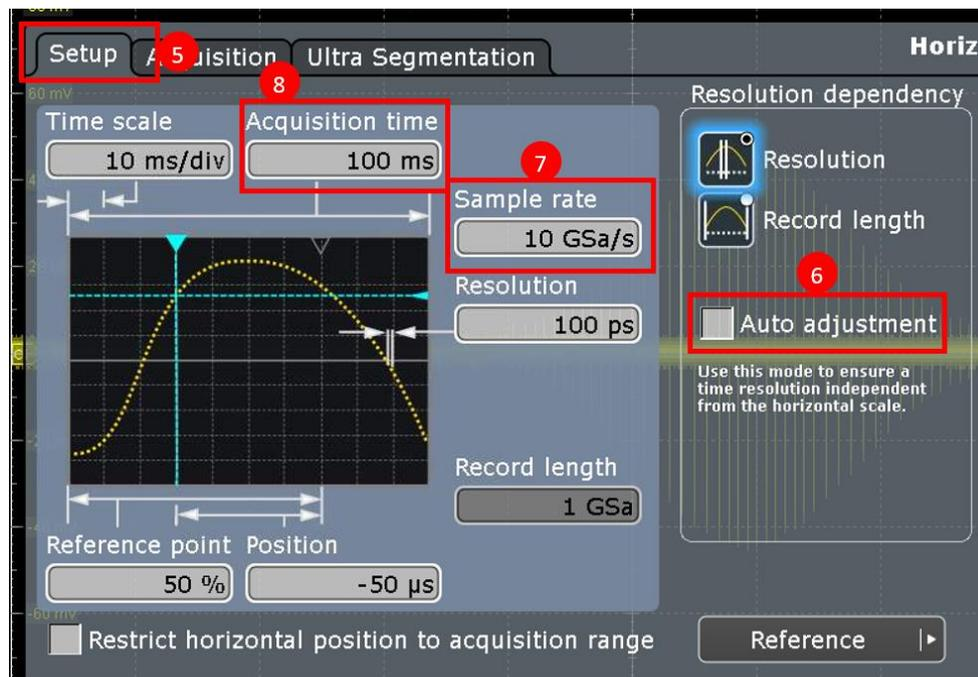

Figure 4: Acquisition configuration
1. Click **[Horizontal]** and change the acquisition time to 20 ms see Figure 4: Acquisition configuration step 8.
1. Click on **[Horizontal]** pane and decrease the **[Acquisition time]** to 2 us (see Figure 4 of section 3.2.1 Step 8)